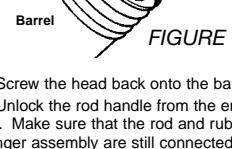

FIGURE 6
5. Push the grease cartridge into the barrel until the rim of the pull-tab end contacts the rim of the barrel (see figure 6). Then remove the pull-tab seal from the end of the grease cartridge.